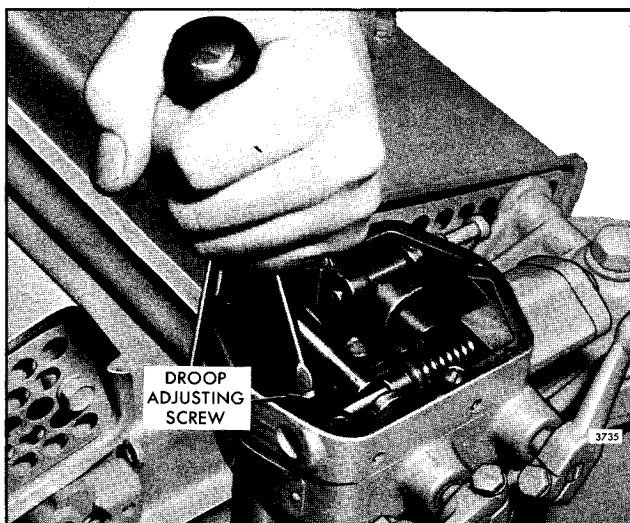

Fig. 8 - Adjusting Speed Droop
4. Loosen the droop adjusting bolt on former units or the screw on current units, Fig. 8. Move the droop bracket so that the screw is midway between the ends of the slot in the bracket. Tighten the screw.